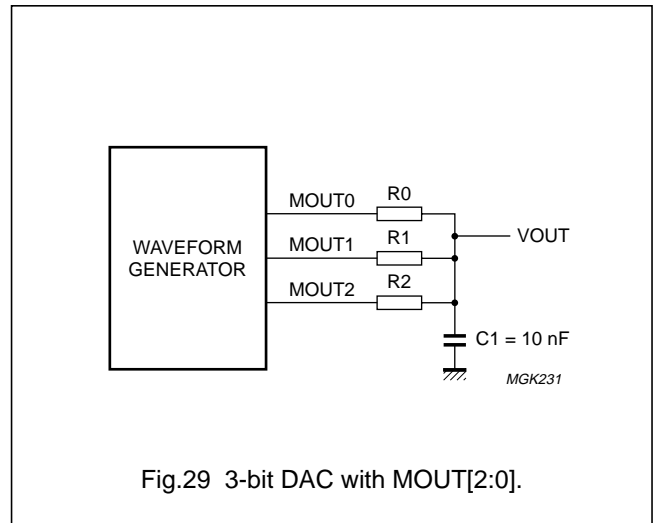

Fig.29 3-bit DAC with MOUT[2:0].
The 3 digital output pins MOUT0 to MOUT2, should be used as an input to a 3-bit external DAC. The signals can be connected via external resistors R0, R1 and R2 to a summation point and then be filtered with an external capacitor (C1). The 3-bit DAC is shown in Fig.29. Table 76 gives the relationship between the MOUT pins and VOUT.
- VOUT with resistor values (see Fig.29): $R1 = 0.5R0$; $R2 = 0.25R0$